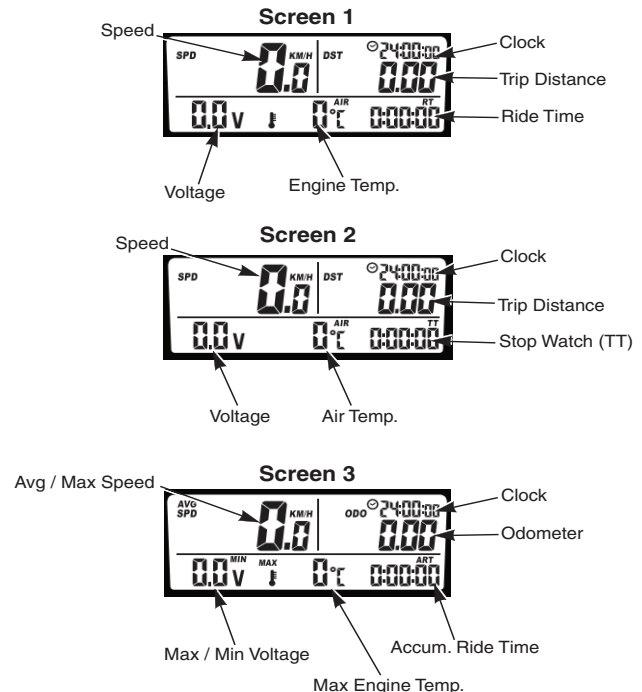

Figure 4-1. Digital Display
The Digital Display is standard equipment on all Turf Storm sprayer/spreader machines. The display has three (3) different screen options to chose from. For more information on the different screen displays, refer to the display's owners manual supplied with this product. See Figure 4-1. If additional information or service is needed, contact your Scag Power Equipment Dealer.
1. **Speed Indicator (Figure 4-1).** Indicates the current speed of the machine. Refer to Sections 5.7 & 5.8 for calibration procedure.
2. **Clock Indicator (Figure 4-1).** Indicates the current time.
3. **Trip Distance Indicator (Figure 4-1).** Indicates the distance traveled by the machine, can be used to calculate a test path during calibration.
4. **Voltage Indicator (Figure 4-1).** Indicates the current voltage of the machine.
5. **Engine Temp. Indicator (Figure 4-1) Not Used.** Indicates the current temperature of the engine.
6. **Ride Time Indicator (Figure 4-1).** Indicates the current operating time since the last trip data reset. Ride time only registers while the machine is moving.
7. **Stop Watch Indicator (Figure 4-1).** Indicates when the stop watch feature is in use, can be paused, stopped, and reset with a trip data reset.
8. **Air Temp. Indicator (Figure 4-1).** Indicates current ambient temperature.
9. **Odometer Indicator (Figure 4-1).** Indicates the total distance the machine has driven.
10. **Accum. Ride Time Indicator (Figure 4-1).** Indicates the total amount of time the machine has been operated.
11. **Max / Min Voltage Indicator (Figure 4-1).** Indicates the minimum and maximum voltage of the machine. This feature rotates between maximum and minimum voltage every 2 seconds.
12. **Avg / Max Speed Indicator (Figure 4-1).** Indicates the average and maximum speed of the machine. This feature rotates between average and maximum speed every 2 seconds.
11. **Hourmeter (Figure 4-1).** Indicates the number of hours the engine has been operated. It operates whenever the engine is running. Has preset maintenance reminders for engine and hydraulic system oil changes. Will start flashing scheduled maintenance 2 hours before preset time and continue flashing until 2 hours after. Automatically resets.
- 25. Digital Display (Figure 4-1).** Located on the control panel, the display allows the operator to see various functions of the machine including ground speed, hours, distance, and many other important metrics for the machine. See Section 4.1